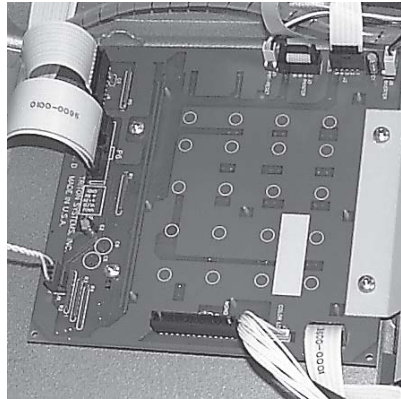

Figure 1. Main keypad PCB.
1. Open the control panel hood. Turn the power switch on the power supply to the OFF (0) position.
2. The Main keypad assembly is located just below the display mounting bracket on the back of the front control panel. It's mounted directly to the back of the front control panel with four (4) screws and washers (Figure 1).